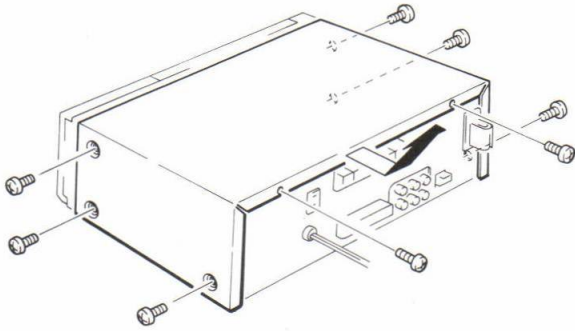

Fig. 1
- 1) Remove the 8 screws. (See Figure 1)